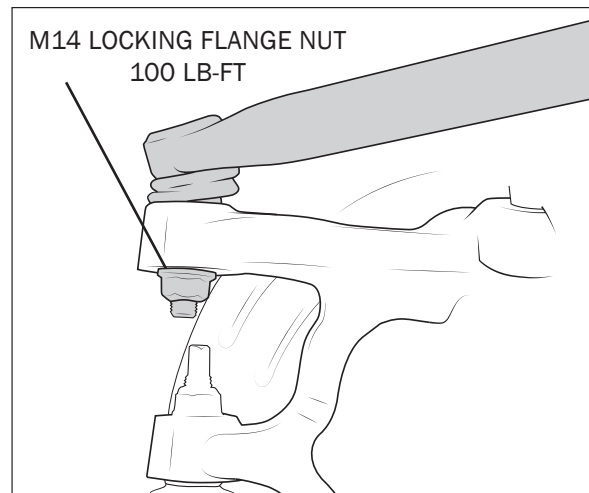

Figure 35
- c. Install the new drag link into the knuckle and torque to **100 lb-ft** (fig. 35).